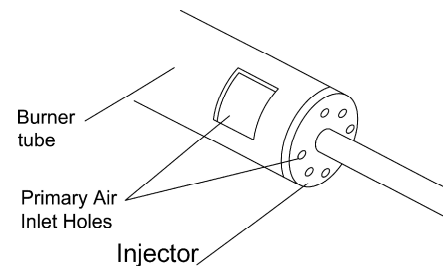

Figure 31 Inject or holder on
2. Inspect burner, pilot and primary air inlet holes on injector holder for dust and dirt (see Figure 31).